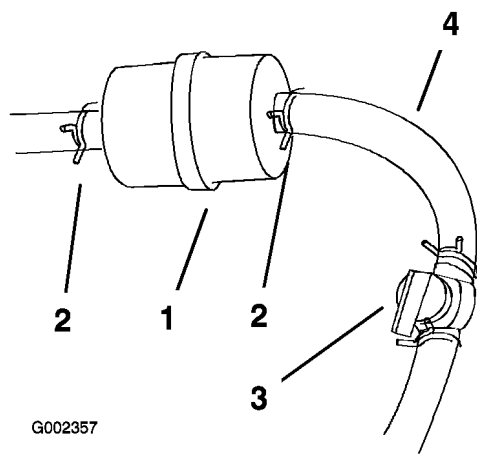

Figure 42
4. Close the fuel shutoff valve (Figure 42).
5. Squeeze the ends of the hose clamps together and slide them away from the filter (Figure 42).
7. Install a new filter and move the hose clamps close to the filter (Figure 42).
3. Close the fuel shutoff valve (Figure 42).
4. Loosen the hose clamp at the fuel filter and slide it up the fuel line away from the fuel filter (Figure 42).
5. Disconnect the fuel line from the fuel filter (Figure 42).
Note: Allow gasoline to drain into a fuel container can or drain pan (Figure 42).
7. Install the fuel line onto the fuel filter. Slide the hose clamp close to the fuel filter to secure the fuel line (Figure 42).